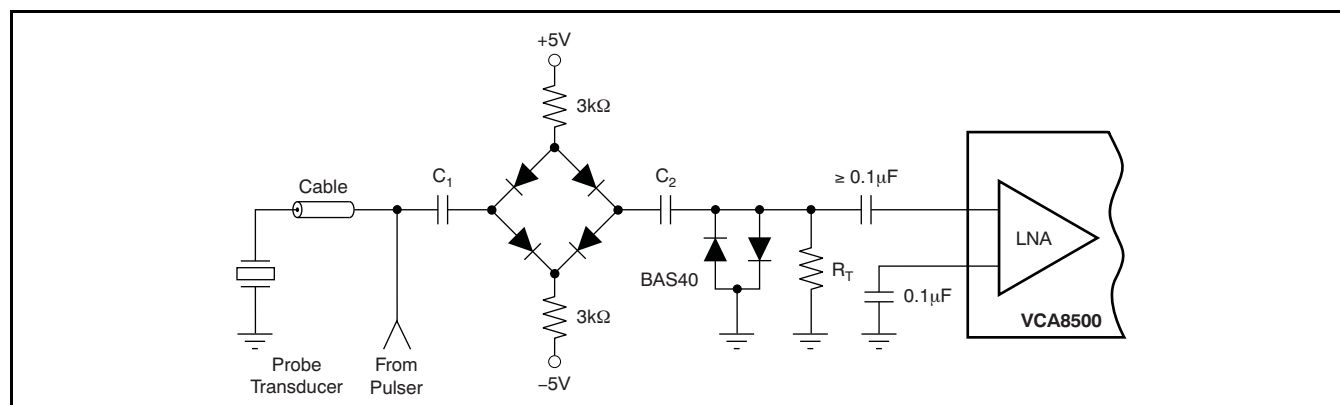

Figure 65. Typical Input Overload Protection Circuit of an Ultrasound System
The VCA8500 is designed in particular for ultrasound applications where the front-end device is required to recover very quickly from an overload condition. Such an overload can either be the result of a transmit pulse feed-through or a strong echo, which can cause overload of the LNA, the PGA, or both. As discussed earlier, the LNA inputs are internally protected by a pair of back-to-back diodes to prevent severe overload of the LNA. Figure 65 illustrates an ultrasound receive channel front-end that includes typical external overload protection elements. Here, four high-voltage switching diodes are configured in a bridge configuration and form the transmit/receive (T/R) switch. During the transmit period, high voltage pulses from the pulser are applied to the transducer elements and the T/R switch isolates the sensitive LNA input from being damaged by the high voltage signal. However, it is common that fast transients up to several volts leak through the T/R switch and potentially overload the receiver. Therefore, an additional pair of clamping diodes is placed between the T/R switch and the LNA input. In order to clamp the over-voltage to small levels, Schottky diodes (such as the BAS40 series by Infineon®) are commonly used. For example, clamping to levels of $\pm 0.3\text{V}$ can significantly reduce the overall overload recovery performance. The T/R switch characteristics
As Figure 65 shows, the front-end circuitry should be capacitively coupled to the LNA signal input (IN). This coupling ensures that the LNA input bias voltage of $+2.4\text{V}$ is maintained and decoupled from any other biasing voltage before the LNA.
Within the VCA8500, overload can occur in either the LNA or the PGA. LNA overload can occur as the result of T/R switch feed-through; and the PGA can be driven into an overload condition by a strong echo in the near-field while the signal gain is high. In any case, the VCA8500 is optimized for very short recovery times, as shown in Figure 65.